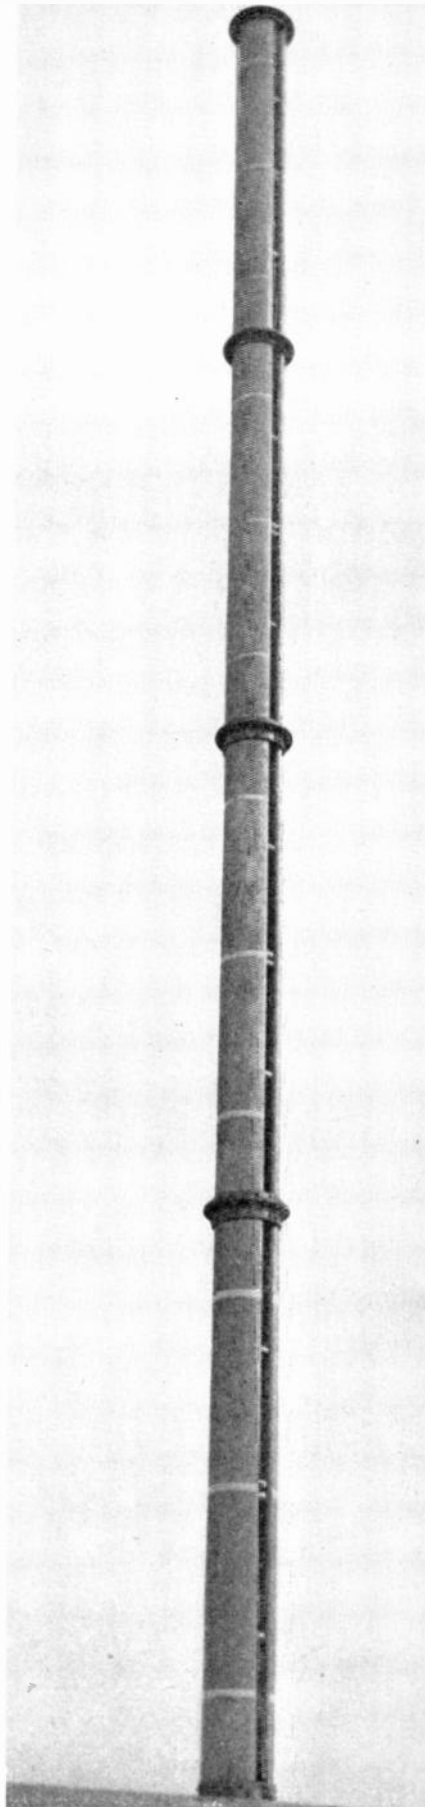

FIG. 2. A 4-SECTION PYLON ANTENNA, MOUNTED ON THE ROOF OF A BUILDING
stacked to provide a high-gain antenna of remarkably simple design. Such an assembly is shown in Fig. 2. It should be noted that the bottom section is mounted di-
**Characteristics** ★ Pylon sections can be stacked to provide higher gain. Fig. 2 shows a 4-section assembly which has a power gain of 6. As many as 8 sections can be stacked in the same manner to give a power gain of 12.